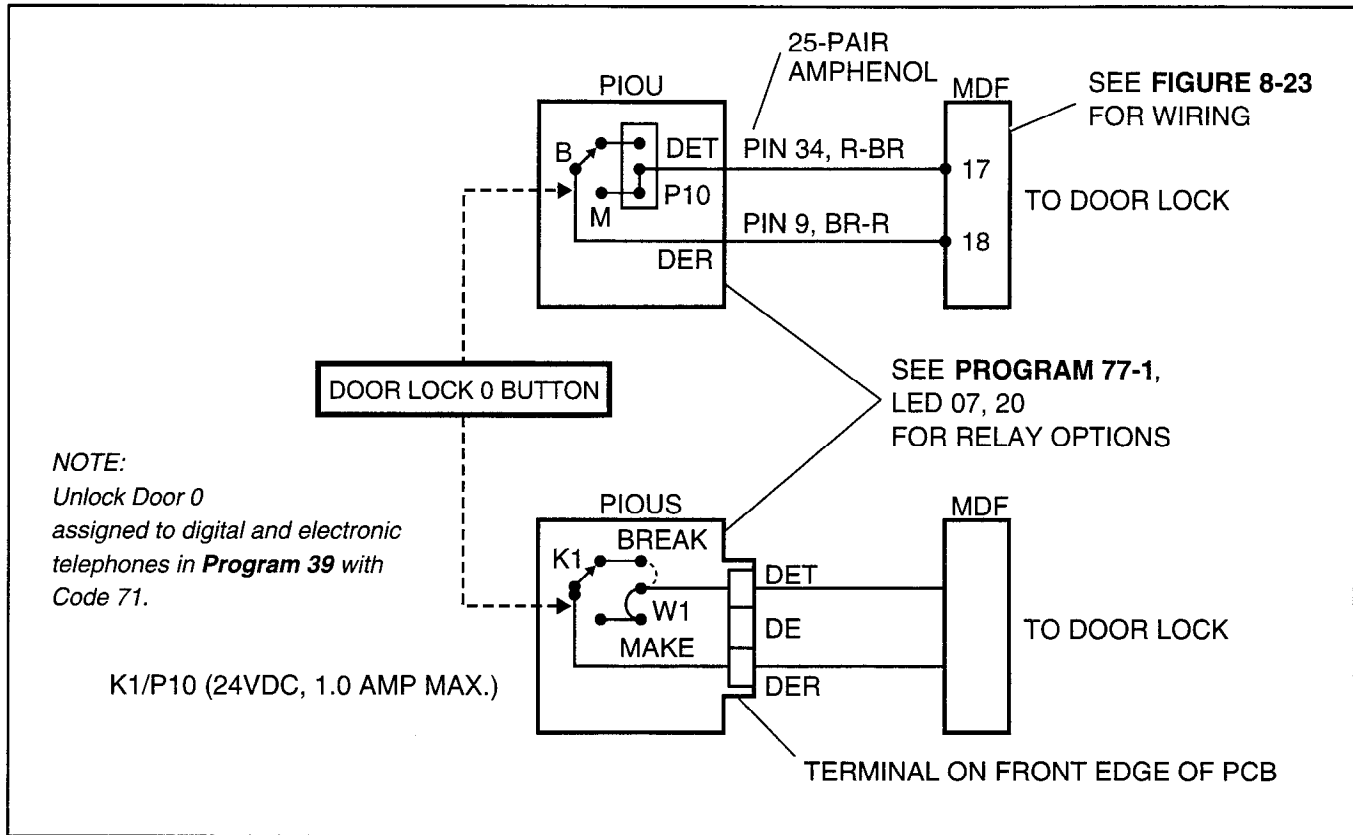

FIGURE 7-8
- 4) Refer to Figure 7-8 for wiring/interconnecting details. Connect the PIOU or PIOUS to the MDF as required for the door lock control function.